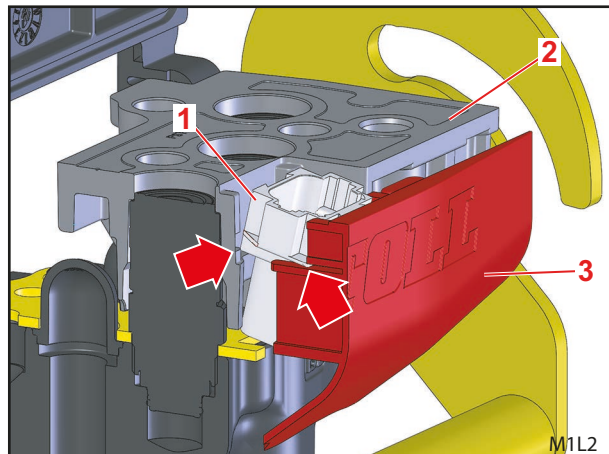

Fig. 10 Installing the Hydro-Fix lower part – Electric plug connector and cover
- (6) Slide the Hydro-Fix lower part on the valve (not all the way down).
- (7) Set the electric plug connector at a slight angle so that it slides into the guides and support plates (see arrows in Fig. 10) when you put the cover and the Hydro-Fix upper part together.
- (8) Slide the cover on completely, and at the same time, gently press down on the Hydro-Fix lower part.
- (9) Secure the Hydro-Fix lower part with the 5 screws M8x45.